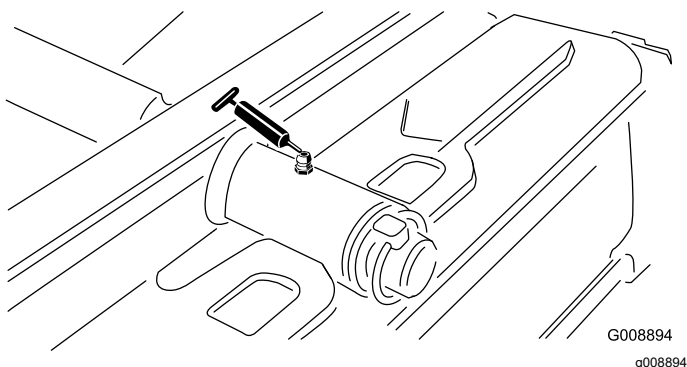

Figure 37
- Rear cutting unit pivot (Figure 37)